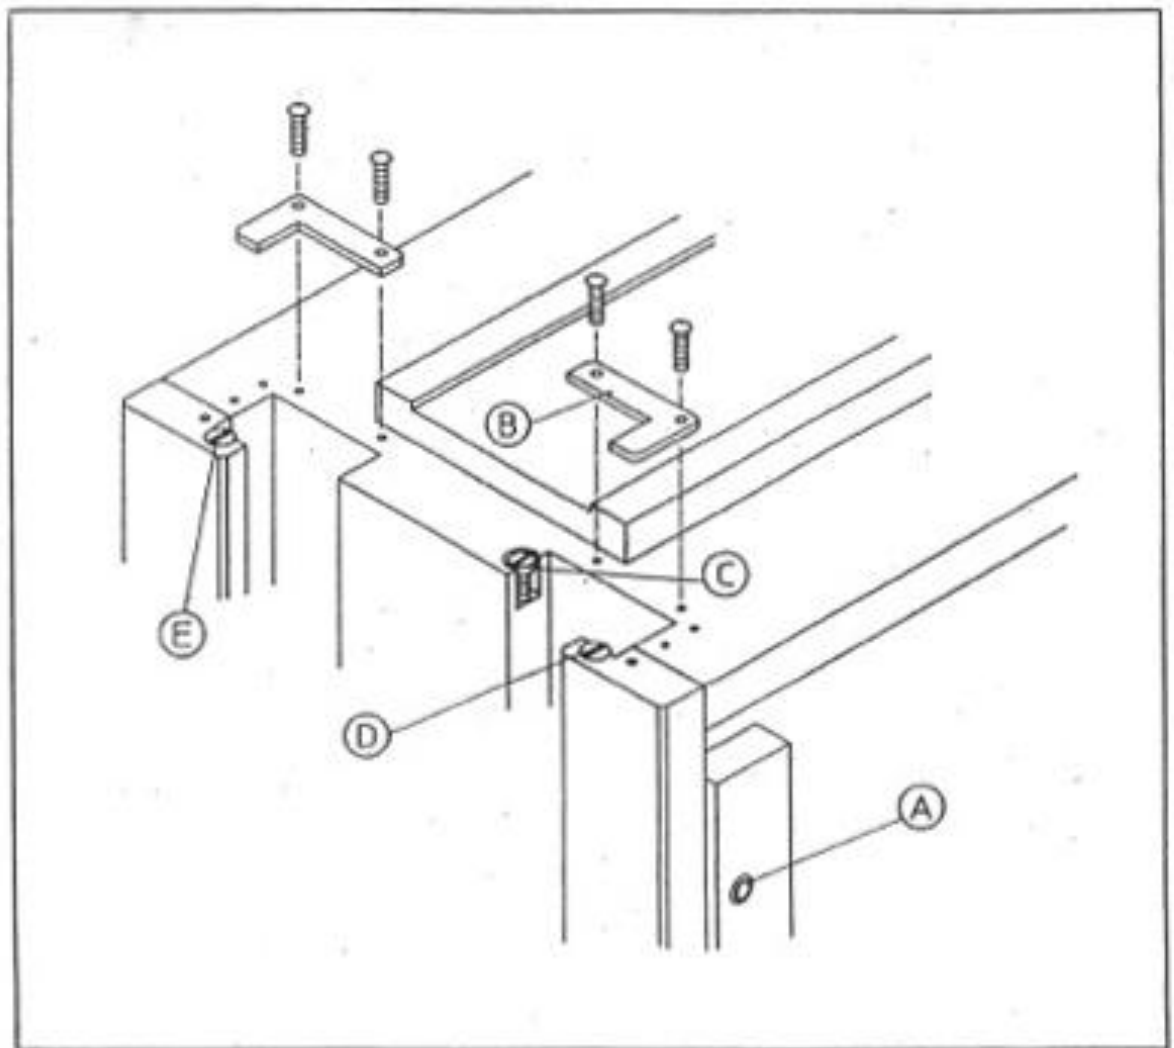

Figure 29
- c. Take off the front and rear wiper holders (B) of saddles.
- e. Use a screw driver to adjust the gib bolts (C) in the left front and rear parts of the saddle.
- f. Lock up the wiper holders (B) on the saddle.
5. Adjustment of Knee Gib on Machine Body (Vide Figure 29):